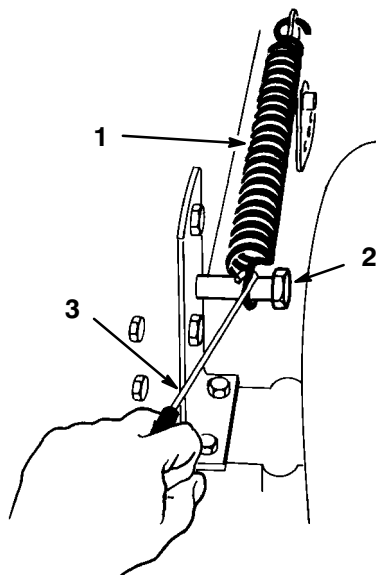

Figure 45
7. Remove the lift assist spring between the mower right side lift bracket and the retaining bolt (Fig. 45) Use the spring tool provided with the machine.